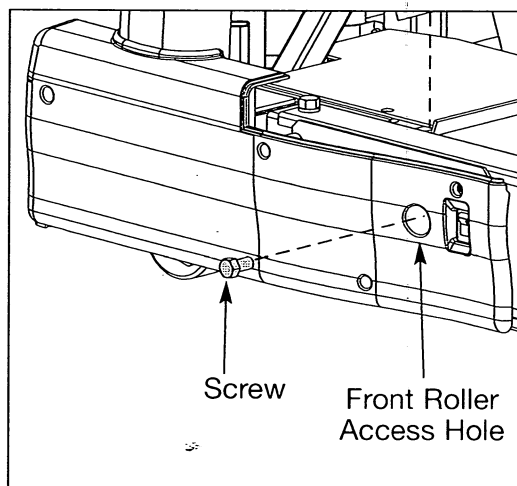

Figure 8
- A. Place a 9/16" socket wrench with a 3" extension in the right front roller access hole. Loosen but do not remove the right front roller screw. See Figure 8. **NOTE:** The right screw will stay on the front roller. You do not need to remove it for this procedure.
- B. Place a 9/16" socket wrench with a 3" extension in the left front roller access hole. Remove the left front roller screw. See Figure 8. **NOTE:** Leave the front roller in place until step 9B.
- B. Using a 9/16" socket wrench with a 3" extension, remove the two front roller screws. See Figure 8.
- B. Using a 9/16" socket wrench with a 3" extension, insert the two screws that fasten the front roller to the frame. **NOTE:** Tighten each of the two screws evenly, making sure not to tighten one screw too many turns before moving to the other screw. See Figure 8.